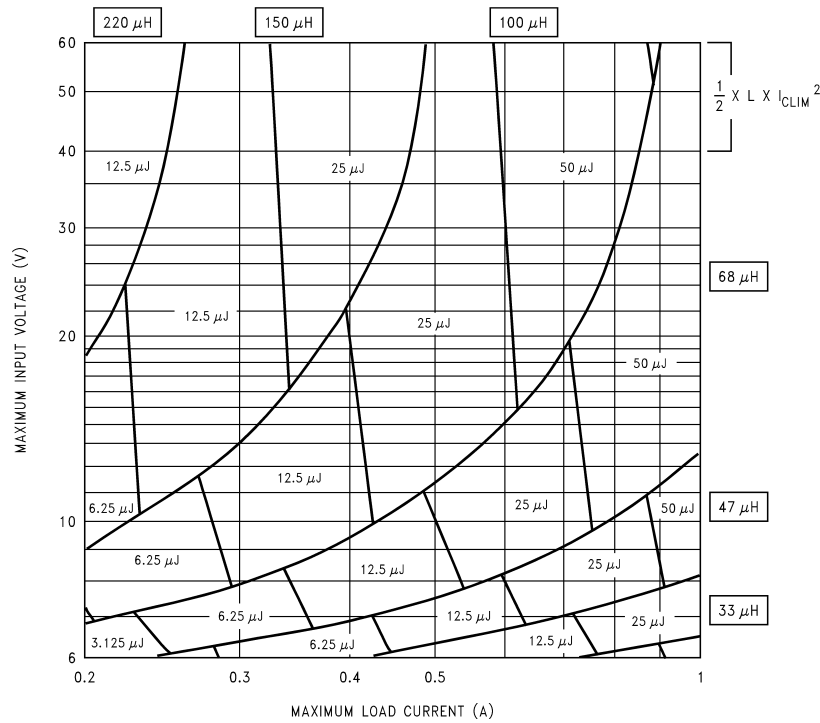
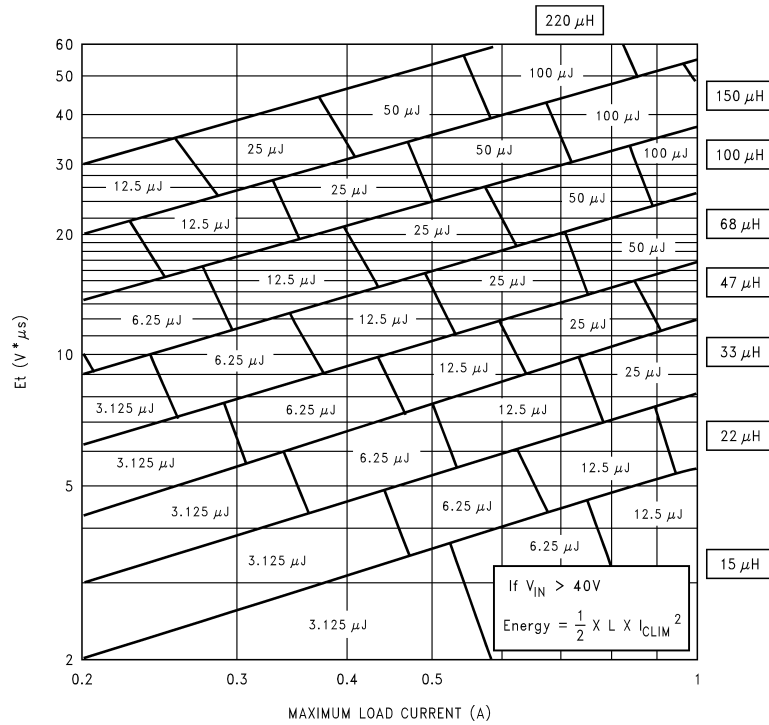

Figure 25. LM2591HV-3.3
Figure 27. LM2591HV-ADJ
Application Note AN-1197 SNVA038 titled "Selecting Inductors for Buck Converters" provides detailed information on this topic. For a quick-start the designer may refer to the nomographs provided in Figure 25 to Figure 27. To widen the choice of the Designer to a more general selection of available inductors, the nomographs provide the required inductance and also the energy in the core expressed in microjoules ( $\mu\text{J}$ ), as an alternative to just prescribing custom parts. The following points need to be highlighted:
5. Figure 27 shows the inductor selection curves for the Adjustable version. The y-axis is 'Et', in  $\text{V}\mu\text{secs}$ . It is the applied volts across the inductor during the ON time of the switch ( $V_{\text{IN}} - V_{\text{SAT}} - V_{\text{OUT}}$ ) multiplied by the time for which the switch is on in  $\mu\text{secs}$ . See Example 3.
1. Since input voltage is less than 40V, a first pass inductor selection is based upon Inductance and rated max load current. We choose an inductor with the Inductance value indicated by the nomograph Figure 27 and a current rating equal to the maximum load. But we first need to calculate Et for the given application. The Duty cycle is
Therefore, looking at Figure 25 we quick-select a 100 $\mu$ H/1A inductor (designed for 150 kHz operation) for this application.
2. We should confirm that it is rated to handle 100  $\mu$ J (see Figure 27) by the procedure shown in AN-1197 SNVA038 and that the losses are acceptable. (If the DC Input voltage had been greater than 40V we would need to consider  $e_{CLIM}$  as in Example 2 above).